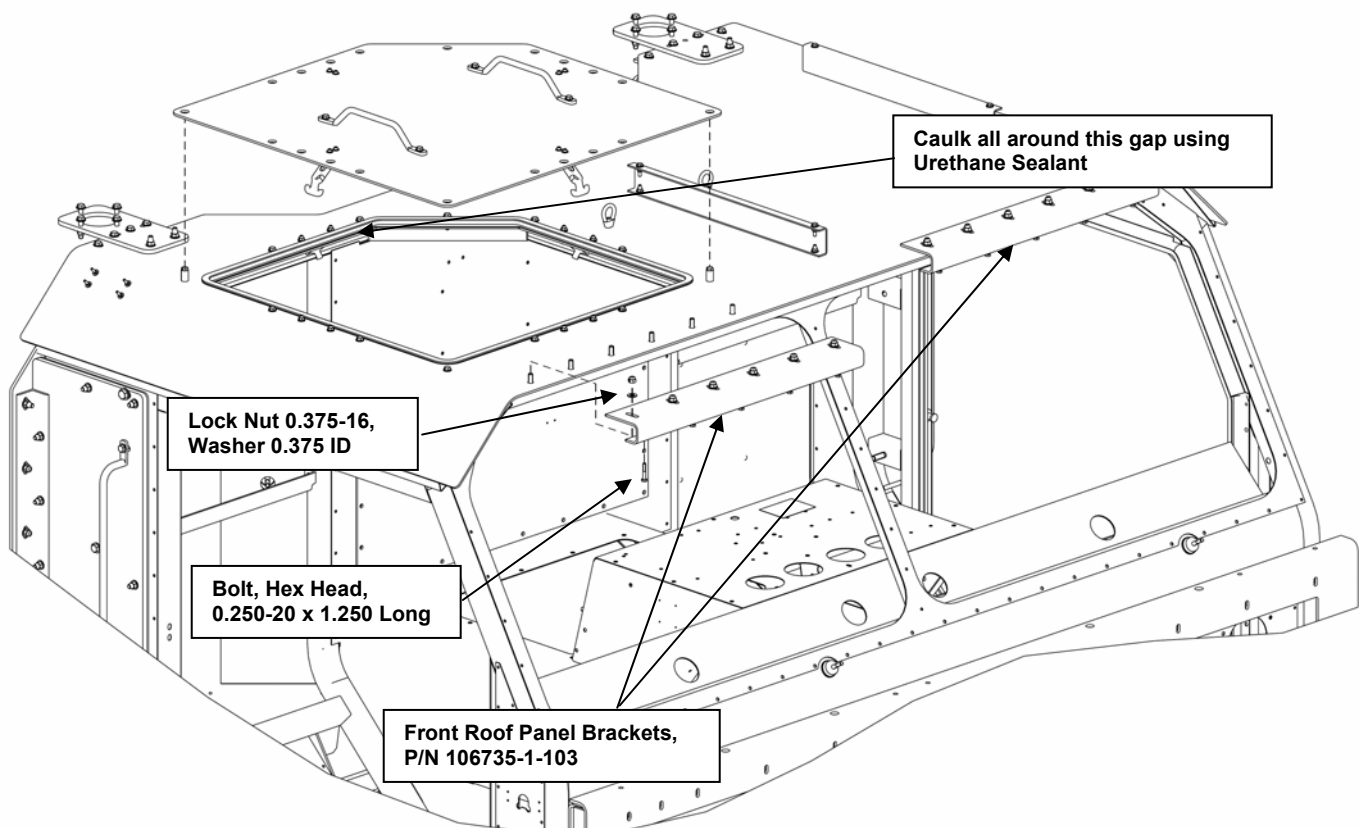

Figure 45. Escape Hatch and Front Roof Bracket installation.
- m) Place the Front Roof Panel Brackets (P/N 106735-1-103) over the studs, as shown in Figure 45. Then, move the bracket as far aft as possible without causing a gap between the top of the roof and the mating surface of the bracket. Use six (6) 0.375-16 nuts and washers to fasten the brackets into position. Apply a small amount of Loctite to five (5) 0.250-20 X 1.250-in.-long Hex Head Bolts and install them through the tapped holes located on the bottom edge of the bracket. Tighten the bolts so that the bracket is clamped to the cab.
- n) Use Urethane Sealant (P/N 104302-1) to fill in the gap between the roof of the cab and the bottom of roof armor around the Escape Hatch (see Figure 45). From the inside of the cab and around the Escape Hatch, apply a small amount of Urethane Sealant to the threaded holes that do not have bolts inserted into them.